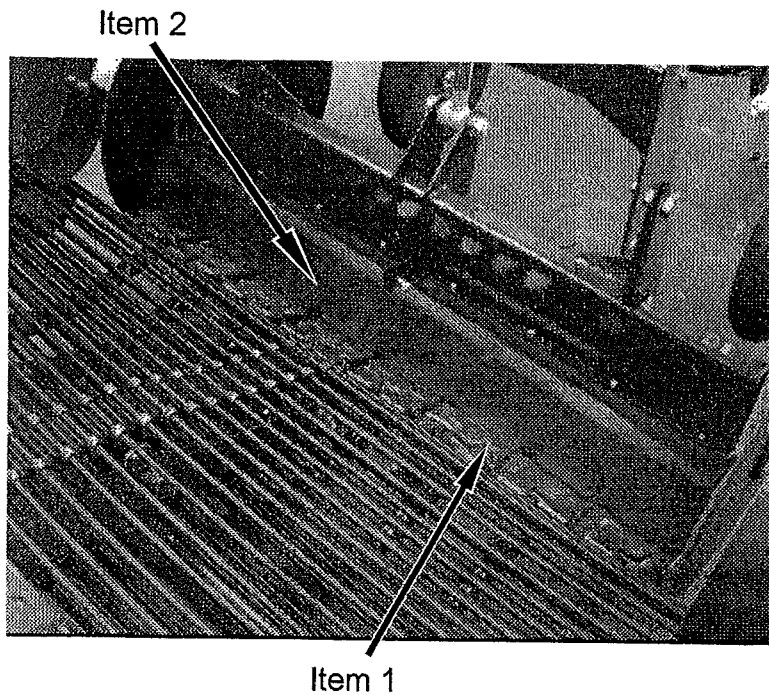

Fig 10.16
Figures 10.16 and 10.17 show an example, with the front of an enterprise set up for onions. Shown is an eight piece share blade arrangement (fig 10.16 item 1) and a baffle for holding the crop in at the row ends (fig 10.16 item 2). The hydraulic ram for lifting and lowering the baffle is plugged into the tractors auxiliary spool valve. Consult your tractor handbook, or tractor dealer for further information.